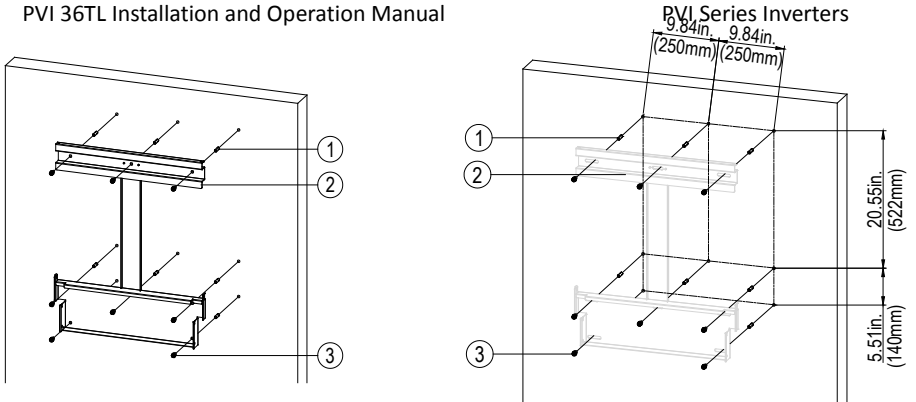

Figure 2.6 - Securing the Mounting Bracket
(2) Drill holes at the marked positions with a 10mm (0.4in.) drill and put the **M8 expansion tubes** ① into the holes; fasten the **mounting bracket** ② with the **M8x25 assembling bolts** ③ in the accessory kit. Figure 2.6.